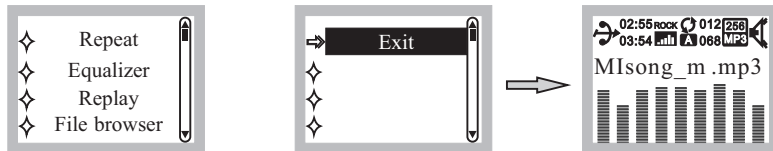

Fig. 16
- (J) Exit: In exit option, press PLAY/PAUSE to return to the playback mode, Fig. 16.